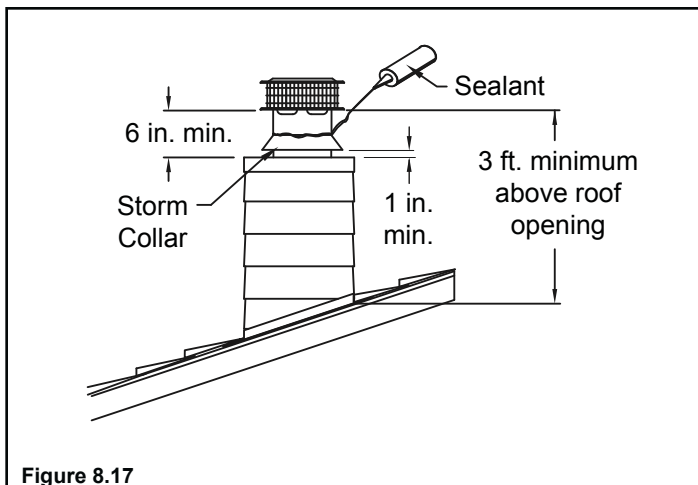

Figure 8.17
- Slide the storm collar down over the chimney to the top of the flashing. The storm collar must be installed 1 in. off the chase top flashing to provide proper ventilation (Figure 8.17).
- Apply a non-hardening waterproof sealant around the chimney at the point where the storm collar will meet the chimney just above the flashing (Figure 8.17).